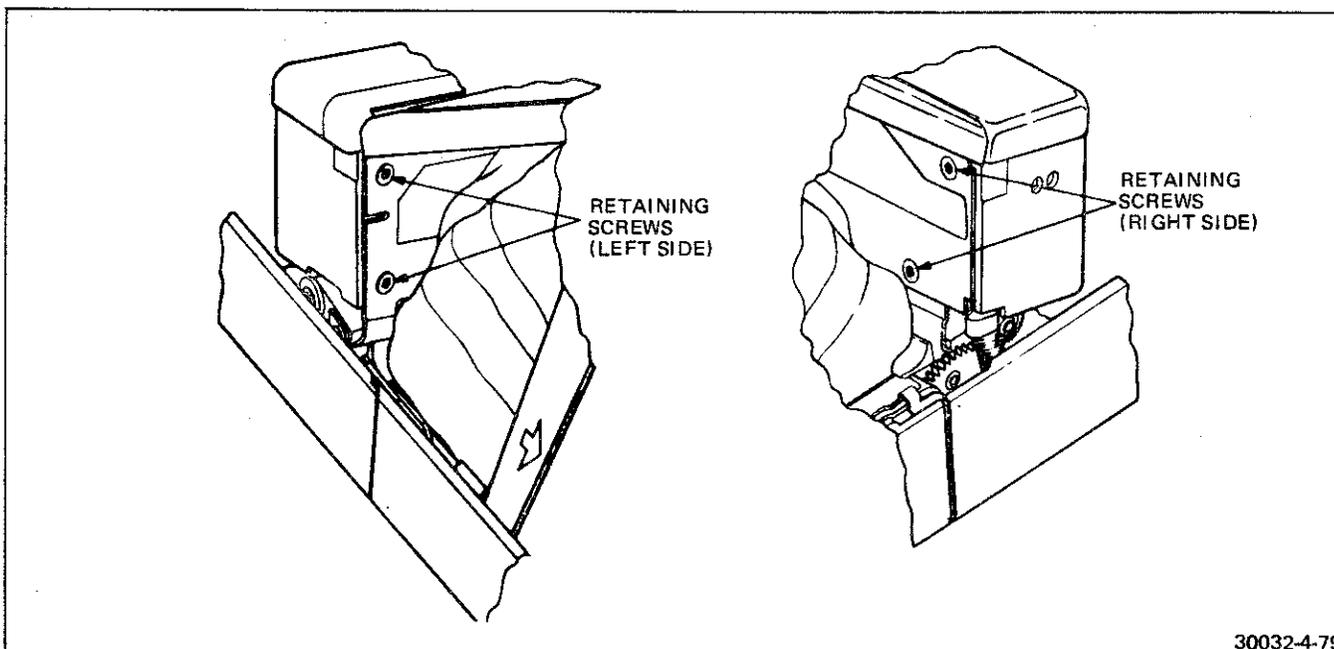

FIGURE 4-79 SHUTTER MOUNT RETAINING SCREWS
- r. Install and tighten the four retaining screws. See Figure 4-79.